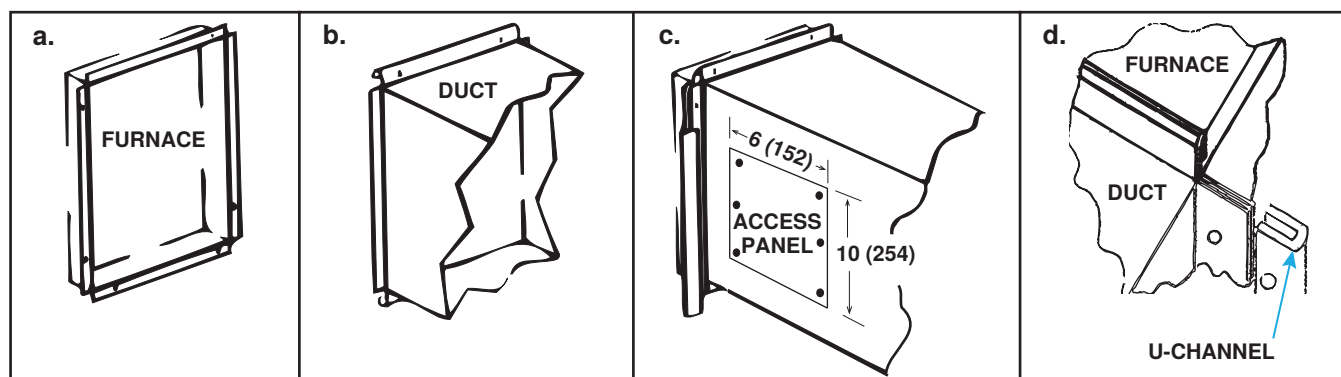

Figure 4. Connecting Ductwork to Furnace
- **Supply air duct/furnace horizontal connection:** Connect the duct to the furnace in accordance with the following steps shown in Figure 4:
- **Access panels:** Install removable access panels (see Figure 4) on both the upstream and downstream sides of the furnace. The access panels must be accessible when the furnace is in service and should be a minimum of 6 × 10 inches (152 × 254 mm) in size so smoke or reflected light may be observed inside the casing to indicate the presence of leaks in the heat exchanger. Ensure that the access panels are installed in such a manner so as to prevent leakage.